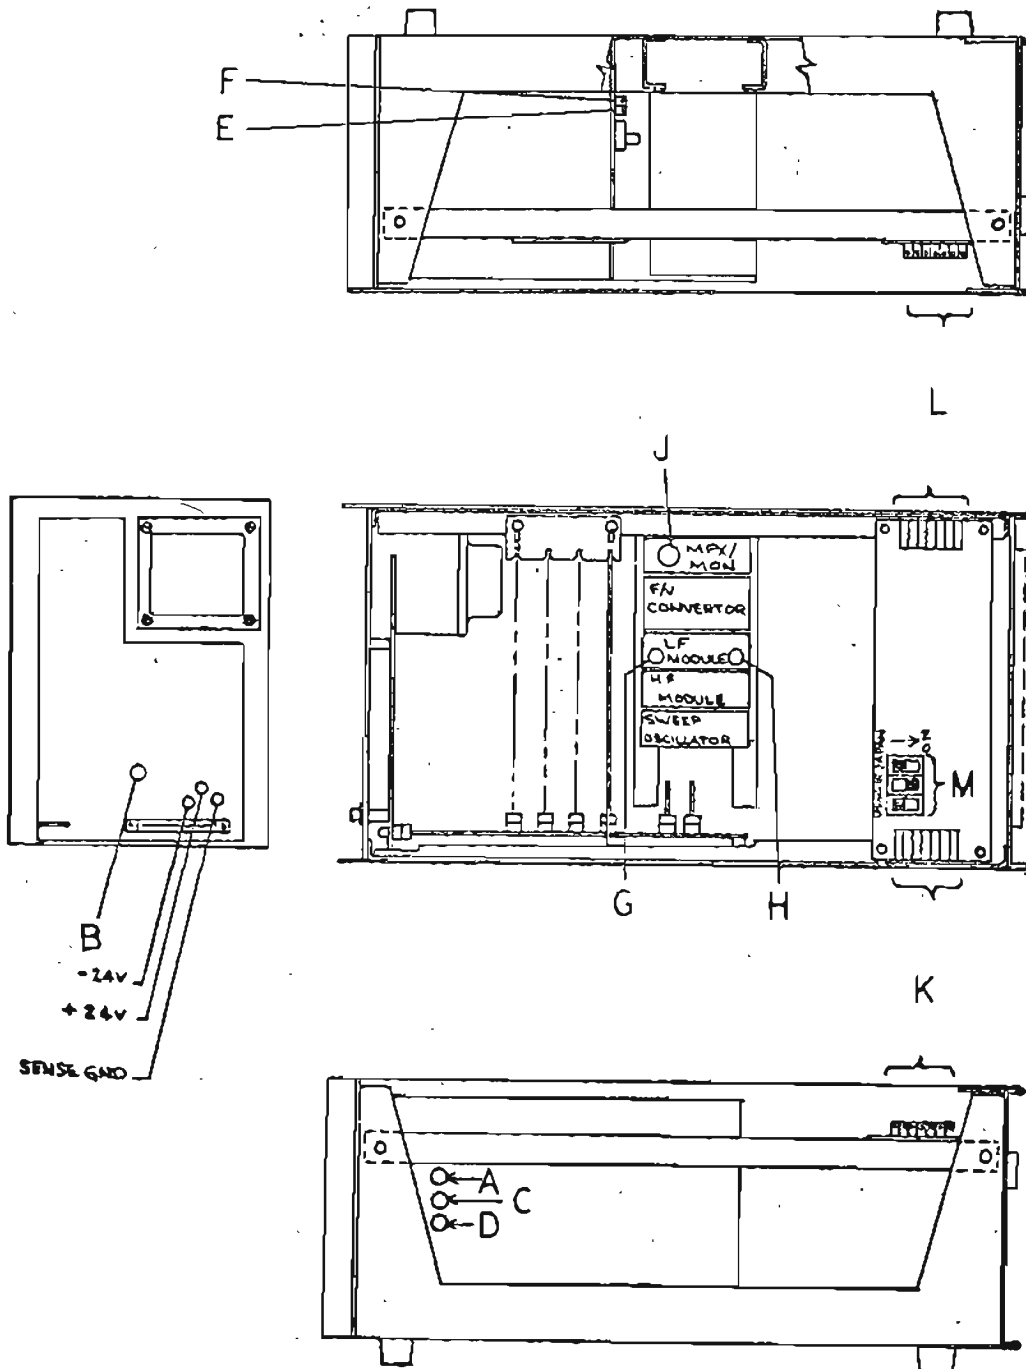
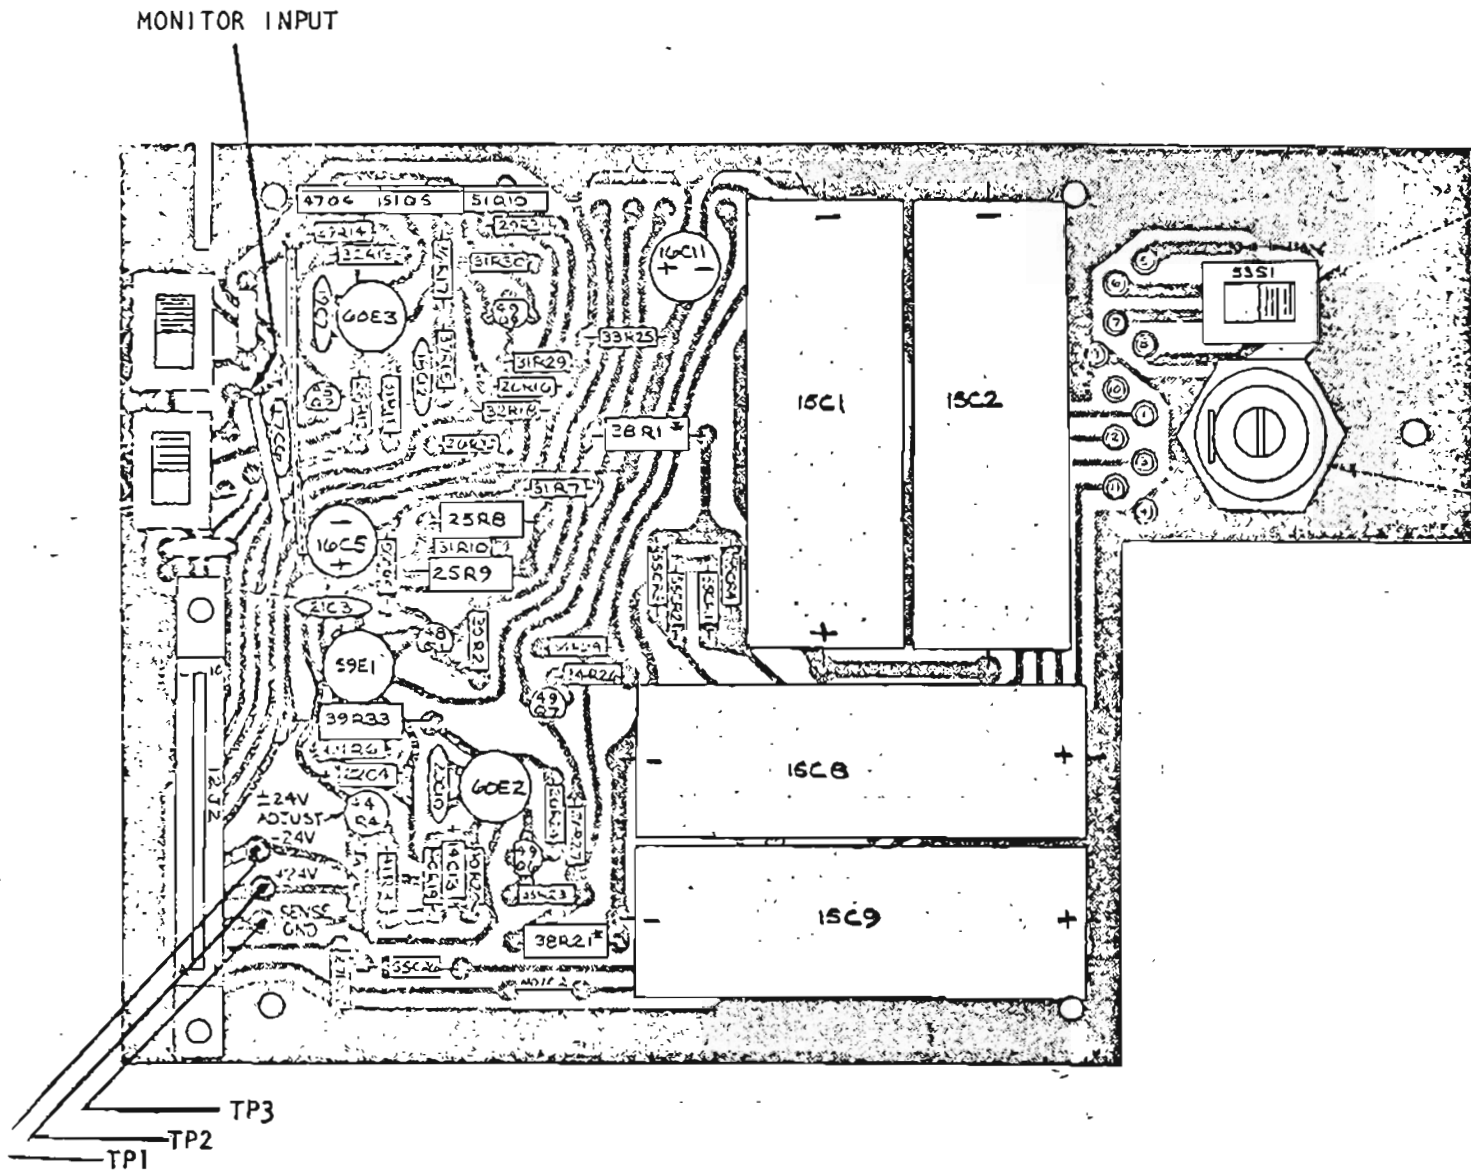
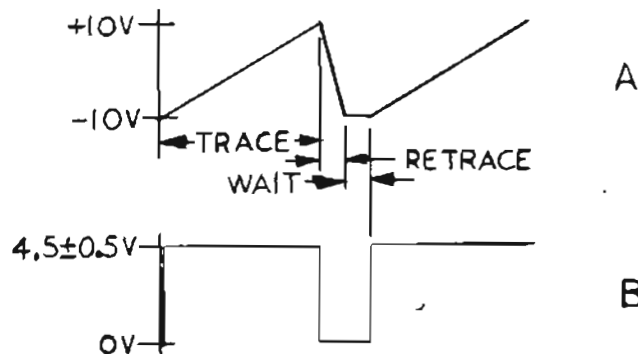

Figure 4-1
Figure 4-2.
Figure 4-4
4.0 ALIGNMENT INSTRUCTIONS. (Refer to Figure 4-1 for location of the internal controls)
4.3.1 Power Supply (See Figure 4-2)
- A. With the unit ON measure the +24V output, TP2. This voltage should be within $\pm 0.20V$ of +24V. Adjust the +24V potentiometer, (Figure 4-1,B) for the proper output.
- A. Adjust the +5V output control (Figure 4-1,A) for $5 \pm 0.050V$. Measure at TP5.
- B. Observe the ramp output, TP2. Be sure the front panel MODE control is NOT in the CW Mode, or the ramp generator will be inhibited. Adjust the ramp trace control (Figure 4-1,D) for a 'wait' time (See Figure 4-4,A of nominally 1.5 msec).
- B. Set the Front Panel MODE Switch to PRESET, and the band to FM-RF SWEPT. Set the FM Bandswitch on the PRESET Board (Figure 4-1,M) for USA ON. Adjust the center frequency and sweep width controls (Figure 4-1 K7 and L7) for a swept range of 85-111 MHz.
- C. Set the FM Bandswitch (Figure 4-1,M) such that CCIR is ON, and all others are off. Adjust controls (Figure 4-1, K6 and L6) for a swept range of 84-106 MHz.
- D. Set the FM Bandswitch (Figure 4-1,M) such that the JAPAN range is ON, and all others off. Adjust controls (Figure 4-1, K5 and L5) for a swept range of 72-115 MHz.
- E. Depress the Front Panel FM-IF button. Adjust the controls (Figure 4-1,K4 and L4) for a swept range of 81-90 MHz. The output from the front panel will be 1/8 of this swept range; therefore, the FM-IF output is at least 10.2 to 11.2 MHz.
- F. Depress the AM RF SWEPT button on the front panel. Adjust the controls (Figure 4-1, K3 and L3) for a swept range of 90-111 MHz. This will correspond to a front panel output of at least 500 - 1700 MHz. The actual front panel output frequency is found from the expression:
- G. Depress the AM IF 1 button on the front panel. Adjust the controls (Figure 4-1, K2 and L2) for a swept range of 85 to 90 MHz. This corresponds to a front panel output of at least 445 to 465 kHz - the actual front panel frequency (F) is $F_s / 192$.
- H. Depress the AM-IF 2 button on the front panel. Adjust the controls (Figure 4-1, K1 and L1) for a swept range of 96 - 105 MHz. This will insure a front panel output range of at least 252 to 272 kHz; the actual output frequency (F) is $F_s / 384$.
- A. Depress the FM RF SWEPT button on the front panel. Adjust the LEVEL control (Figure 4-1,C) for a front panel output level of 5 mW.
- B. Depress the FM IF button and disable the leveling by grounding the MONITOR INPUT terminal on the power supply (Figure 4-2. Adjust the FM IF output tuning capacitor (Figure 4-1,J) for a symmetrical display on the oscilloscope. Remove the grounding and the level should be the same as that set in 4.3.4,A within 1 dB.
- D. Depress the AM IF 1 button and adjust the IF 1 level control (Figure 4-1,H) for 5 mW output power.
- E. Depress the AM IF 2 button and adjust the IF 2 level control (Figure 4-1,G) for 5 mW output power.
amplitude control (Figure 4-1,F) for a convenient display amplitude. Note that the exact frequency may be difficult to determine (99.84 MHz in the example), but that a 50 kHz error amounts to only 0.05% marker error at the output frequency.
- E. Depress the FM RF SWEPT button on the front panel. Set the FM Bandswitch (Figure 4-1,M) to the desired band. Adjust the marker potentiometer under consideration until the marker appears at the desired frequency. Note that the instrument output in this position is the same frequency as the sample; therefore, no conversion is required.